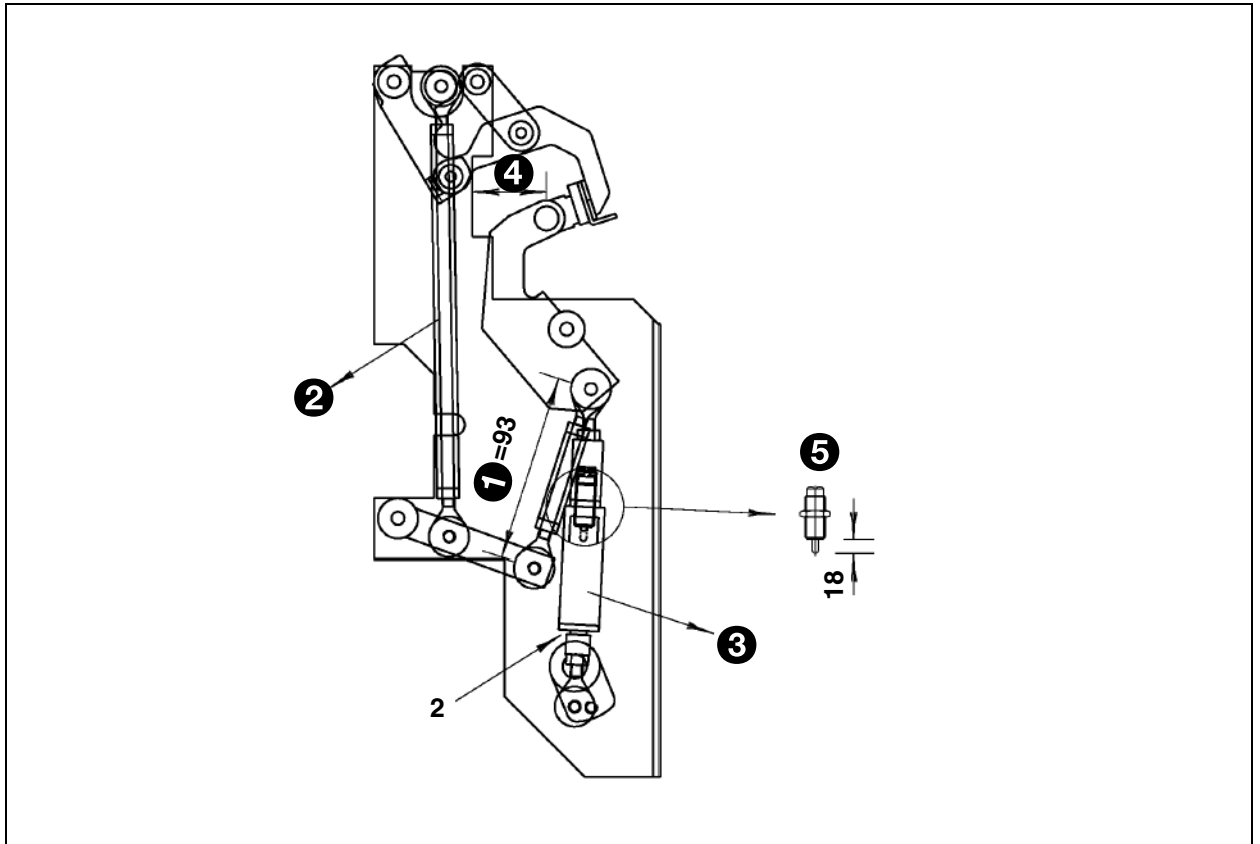

Fig. 199 - Adjustment of the lateral stamping
Adjustments of the lateral stamping, see fig. 199.
1. Check the pull-rod length (1) = (93 mm)
3. Adjust the length of the pull-rod (2) to set dimension (4). (37 mm)
4. Adjust the length of the sprung pull-rod (3) so that it is extended by 2 mm.
*Dimension (4) can be adjusted using spacers.*
5. After replacing the impact damper (5) check the dimension in fig. 199.